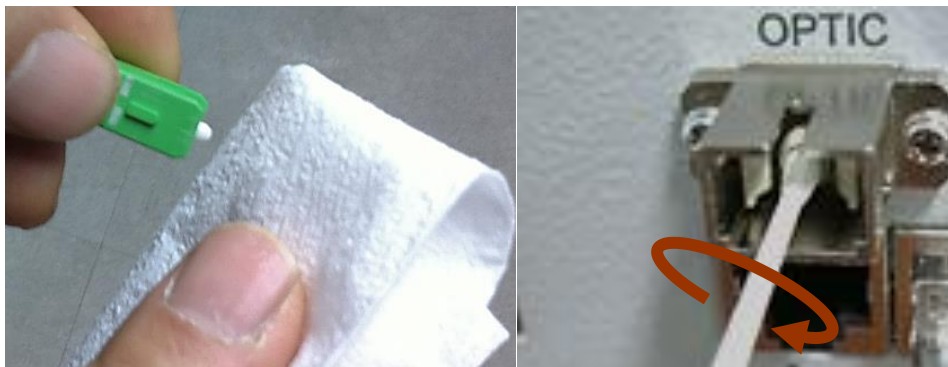

Figure 6-5 Optic Connector Cleaning (left) and Optic Port Cleaning (right)
- We recommend cleaning optic connector using a dry optical cleaning swab or tissue in a dry environment as needed. We recommend cleaning the optic connectors only if the expected optic loss is higher than the loss reported in the Web-GUI by 1.5dB_o. (Figure 6-5)